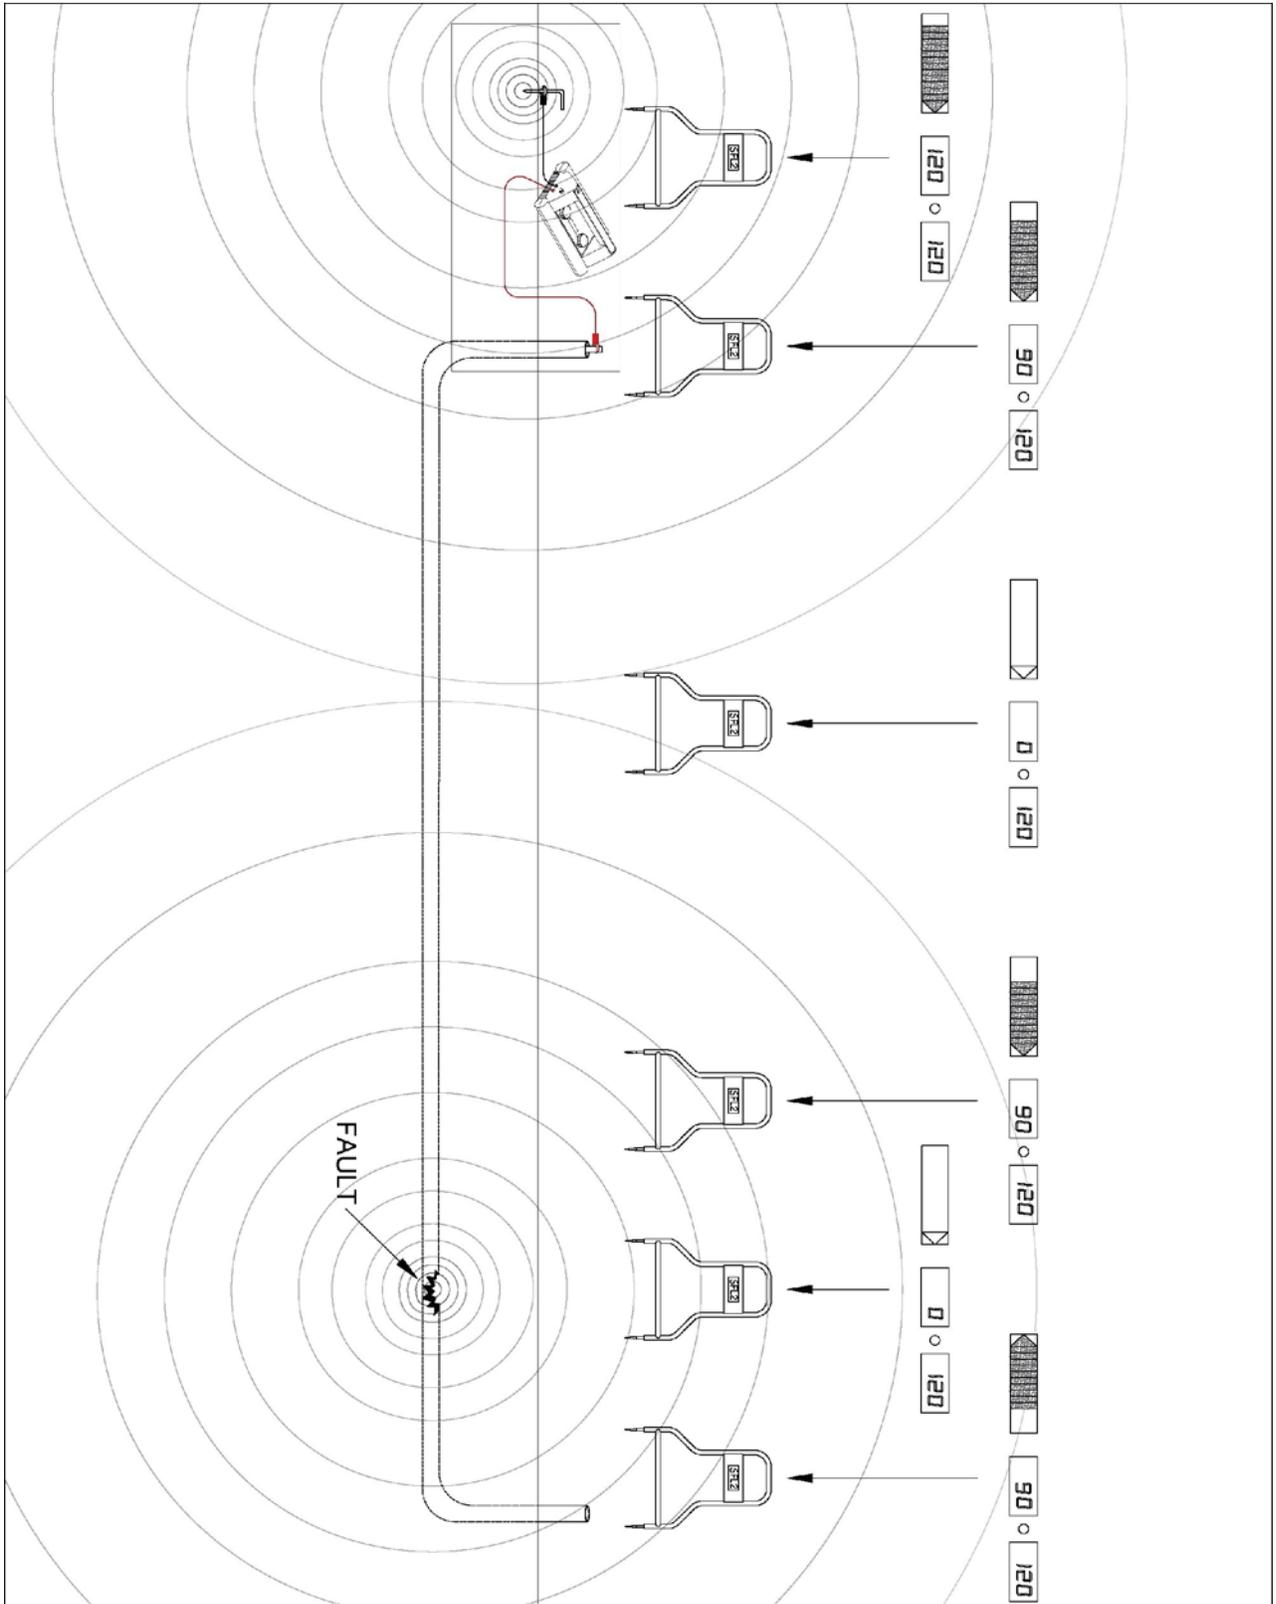

Figure 3-6 : Locating the Cable Fault with A-Frame Receiver
- 5 The active number will be displayed at the same time as the reference number, but it will change when the A-frame spikes are pulled out. The active number will decrease when you move away from the synchronization location and will increase as you get closer to the fault on the cable. The active and reference numbers are available to help you differentiate major faults from minor faults. **See Figure 3-6.**